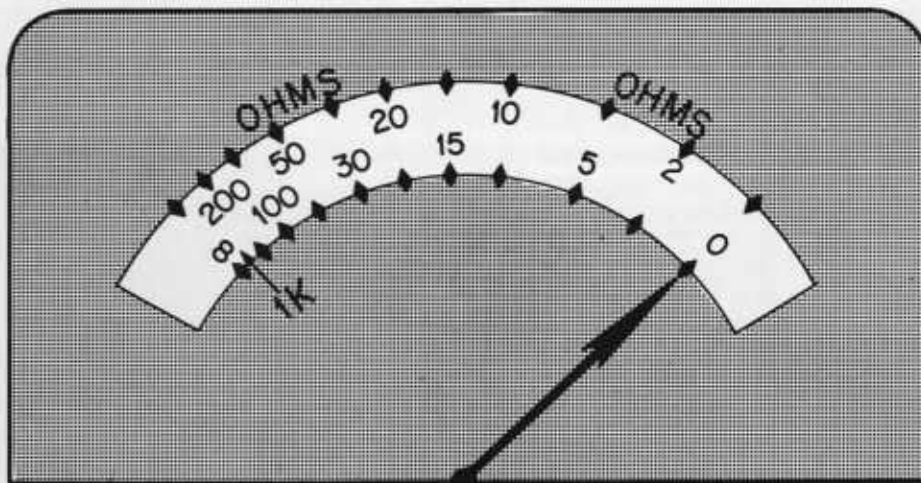

Figure 3.—The multimeter is now switched into its ohmmeter function.
3. Touch the probes together. Since they make an excellent electrical connection, the resistance should read zero (figure 3). If it does not, adjust the *zero adjust knob* until it does. When you separate the two leads, you break the electrical connection, and the ohmmeter reading should be ∞ (a symbol meaning infinity). When there is no electrical connection between the ohmmeter leads, the resistance is effectively infinite.